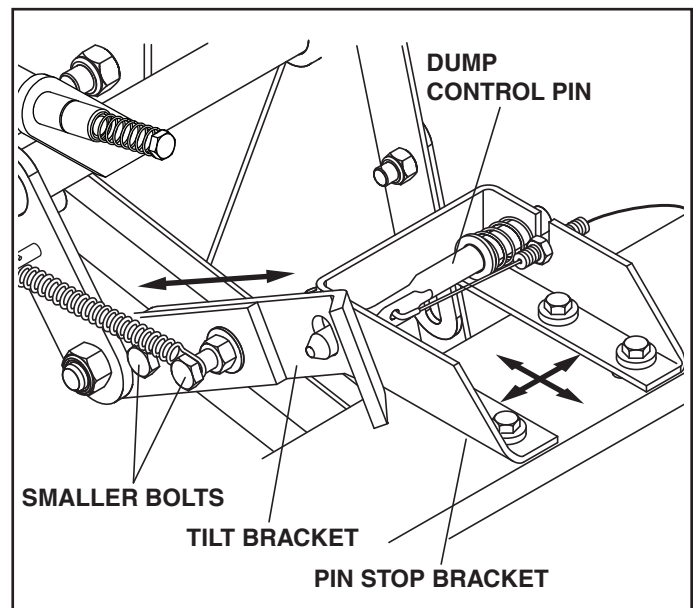

FIGURE 24
STEP 25: ADJUST TILT AND PIN STOP BRACKETS (SEE FIGURE 24)